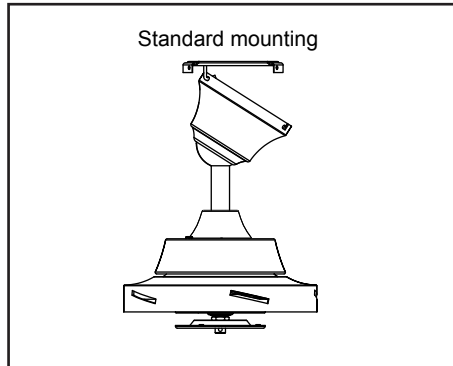

Figure 9
4. Carefully lift the fan assembly up to the ceiling mounting plate and hang the fan on the hook provided by utilizing one of the holes at the outer rim of the ceiling canopy. (Figure 9)
THE HOOK AS SHOWN IN FIGURE 9 IS ONLY TO BALANCE FAN WHILE ATTACHING WIRING. FAILURE TO HANG AS SHOWN IN FIGURE 9 MAY RESULT IN HOOK BREAKING CAUSING THE FAN TO FALL. HOOK MUST PASS FROM INSIDE TO OUTSIDE OF CANOPY.